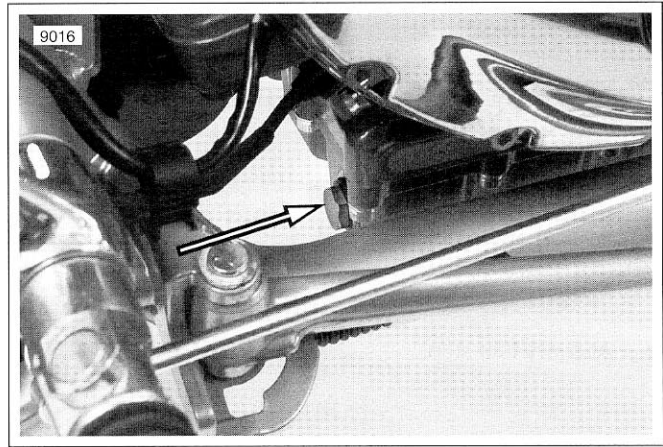

Figure 1-15. Oil Drain Plug
3. See Figure 1-15. Remove the engine oil drain plug at front of oil pan on left side. Allow oil to drain into a suitable container.
6. See Figure 1-15. Install oil drain plug.